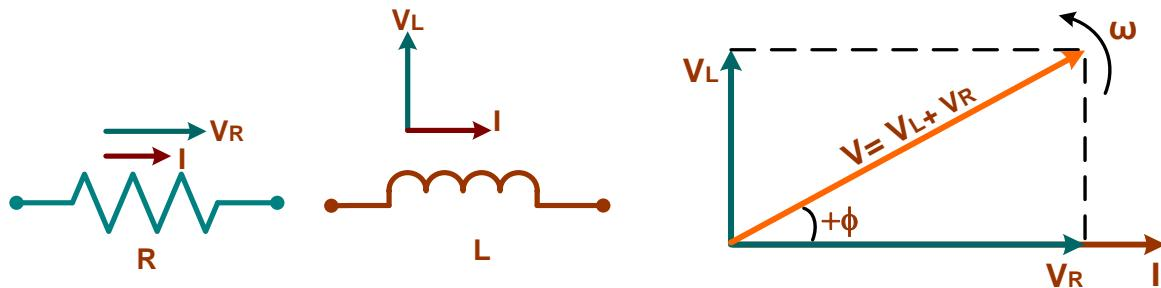

Figure 2.24 Phasor Diagram of Series R-L Circuit
- So, to draw the vector diagram, first I taken as the reference. This is shown in the Fig. 2.24. Next V_R drawn in phase with I. Next V_L is drawn 90° leading the I.